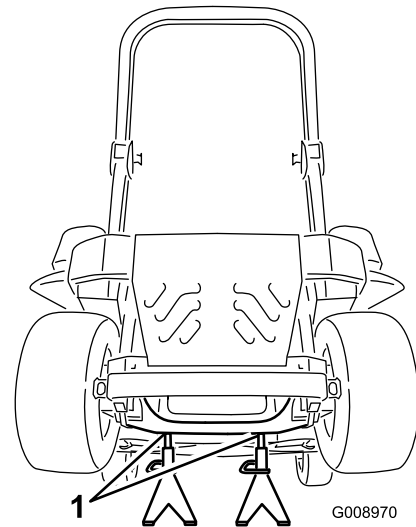

Figure 87
3. Raise the machine and support it with jack stands (Figure 87).
9. Remove the jack stands and lower the machine (Figure 87).